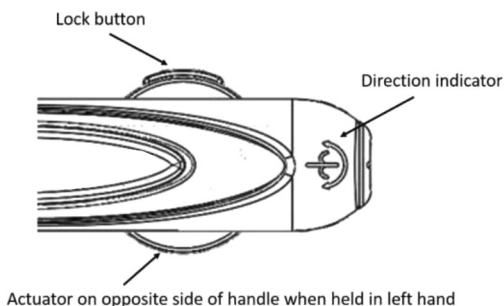

Figure 3 – AcQGuide FLEX actuator diagram
- Hold the handle in the left hand with the actuator positioned away from the operator (actuator on bottom side of handle, see Figure 3).